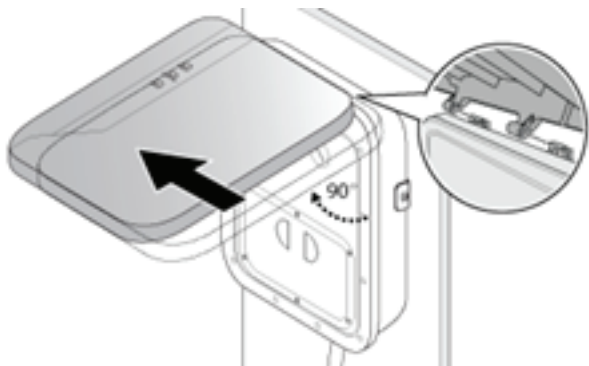

Figure 4-5.
7. See Figure 4-5. Hold the front cover. Flip upward and then shift leftward to separate the front cover from the charger.